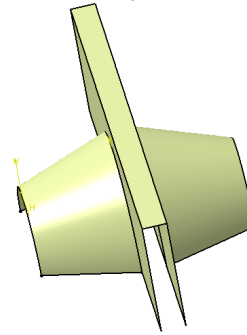

Figure 17-108 Mirror surface created
3. Select the lofted surface and choose the **Symmetry** tool from the **Operations** toolbar. Now, select the yz plane as reference and choose **OK** to create the mirrored surface, refer to Figure 17-108.